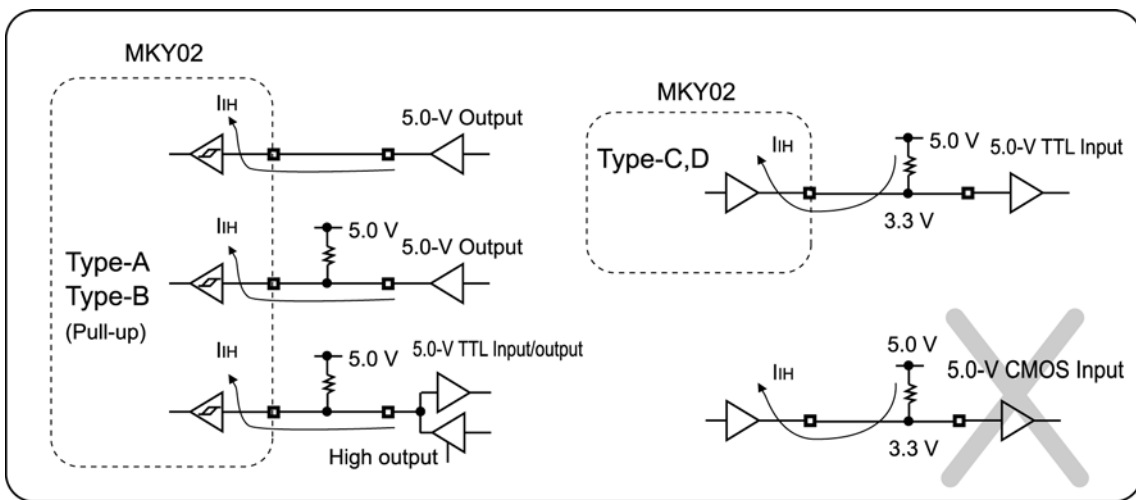

Fig. 3.1 Connection Causing Leakage Current
A pull-up resistor can also be connected between the 5.0-V power supplies. However, if the input voltage of the MKY02 pins exceed 3.3 V, leakage current flows into the MKY02 pins (Fig. 3.1).
- (3) Because the High-level voltages does not meet the 5.0-V CMOS input specifications, the MKY02 output pins cannot be connected to the CMOS input pins of peripheral logic circuits driven by the 5.0-V power supply. This pins cannot be connected even if a pull-up resistor is used between the 5.0-V power supplies (Fig. 3.1).
- (3) A pull-up resistor can be connected between the MKY02 output pins and the 5.0-V power supply. In this case, the High-level output is increased up to 3.3 V, but not to 5.0 V (Fig. 3.1).